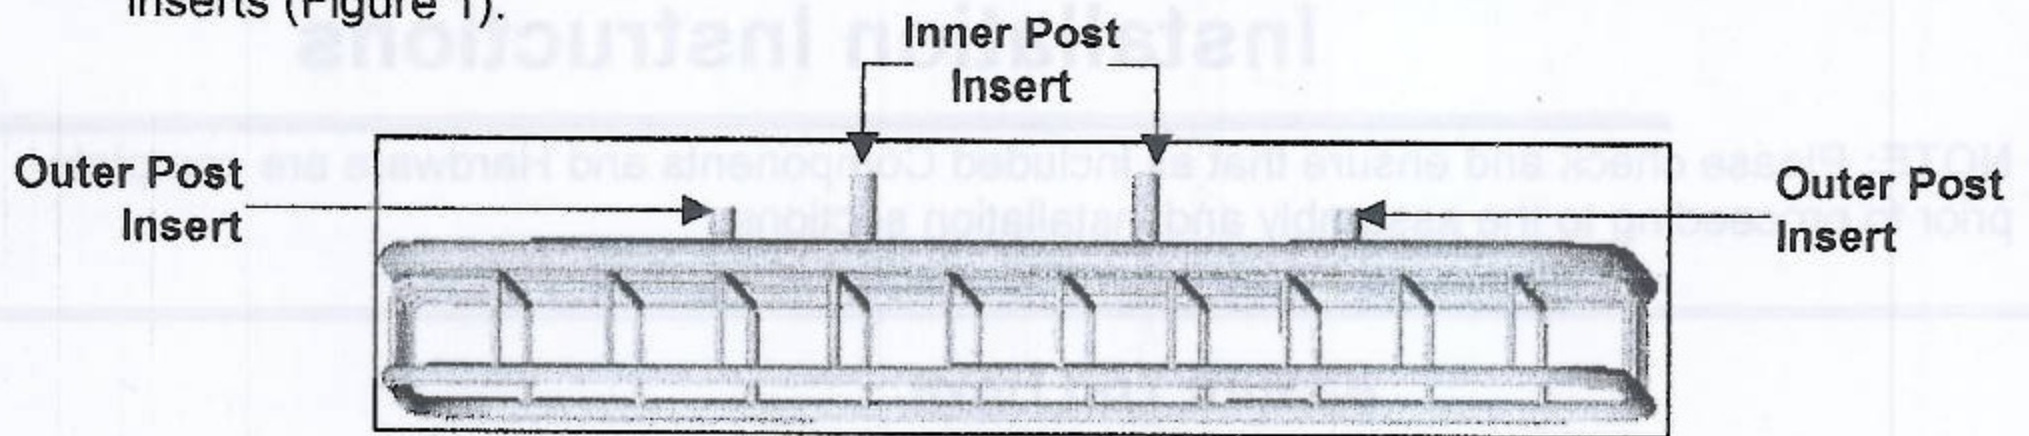

Figure 1
1. Lay the Basket up side down on a flat clean surface and locate the inner and outer post inserts (Figure 1).